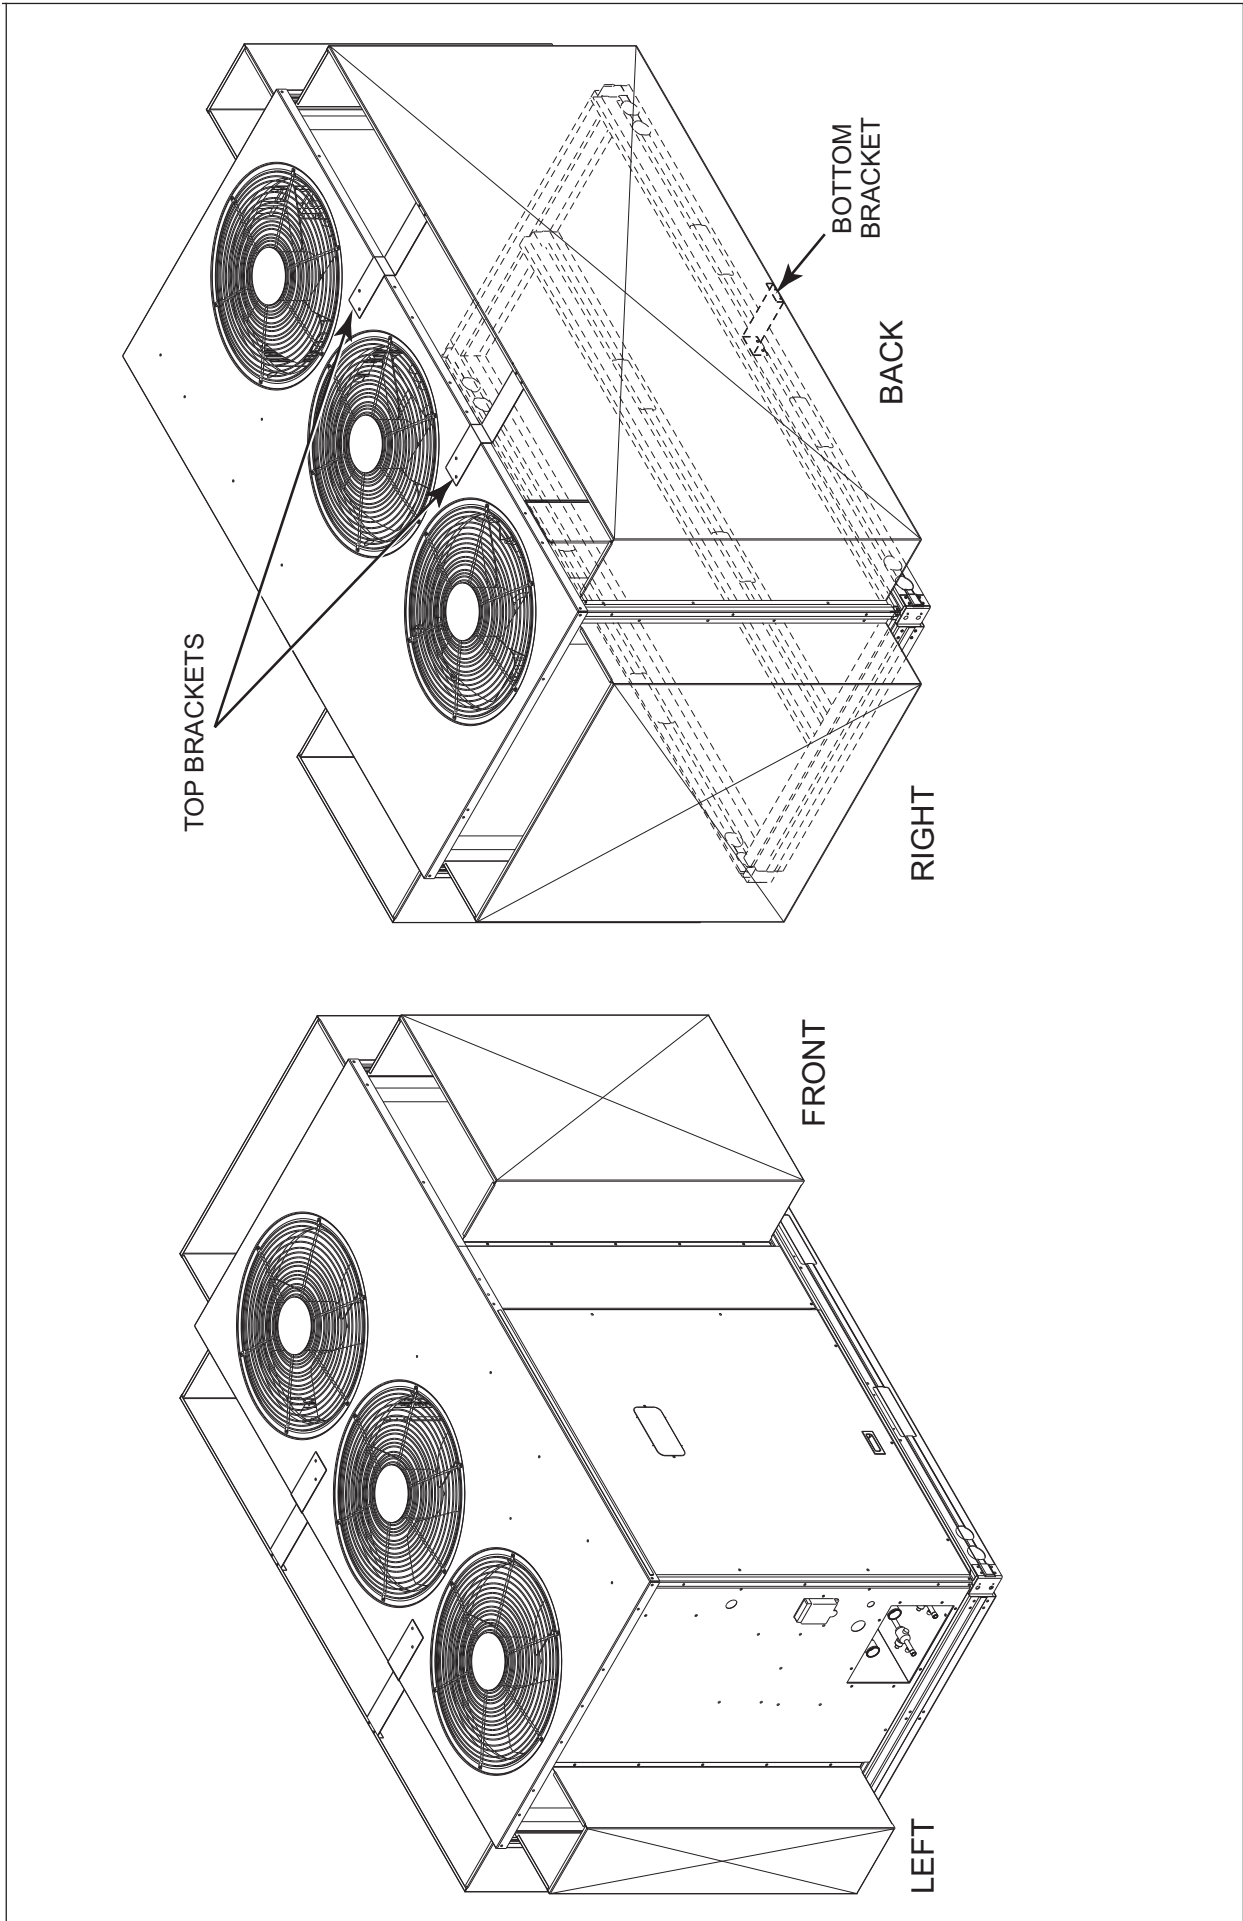
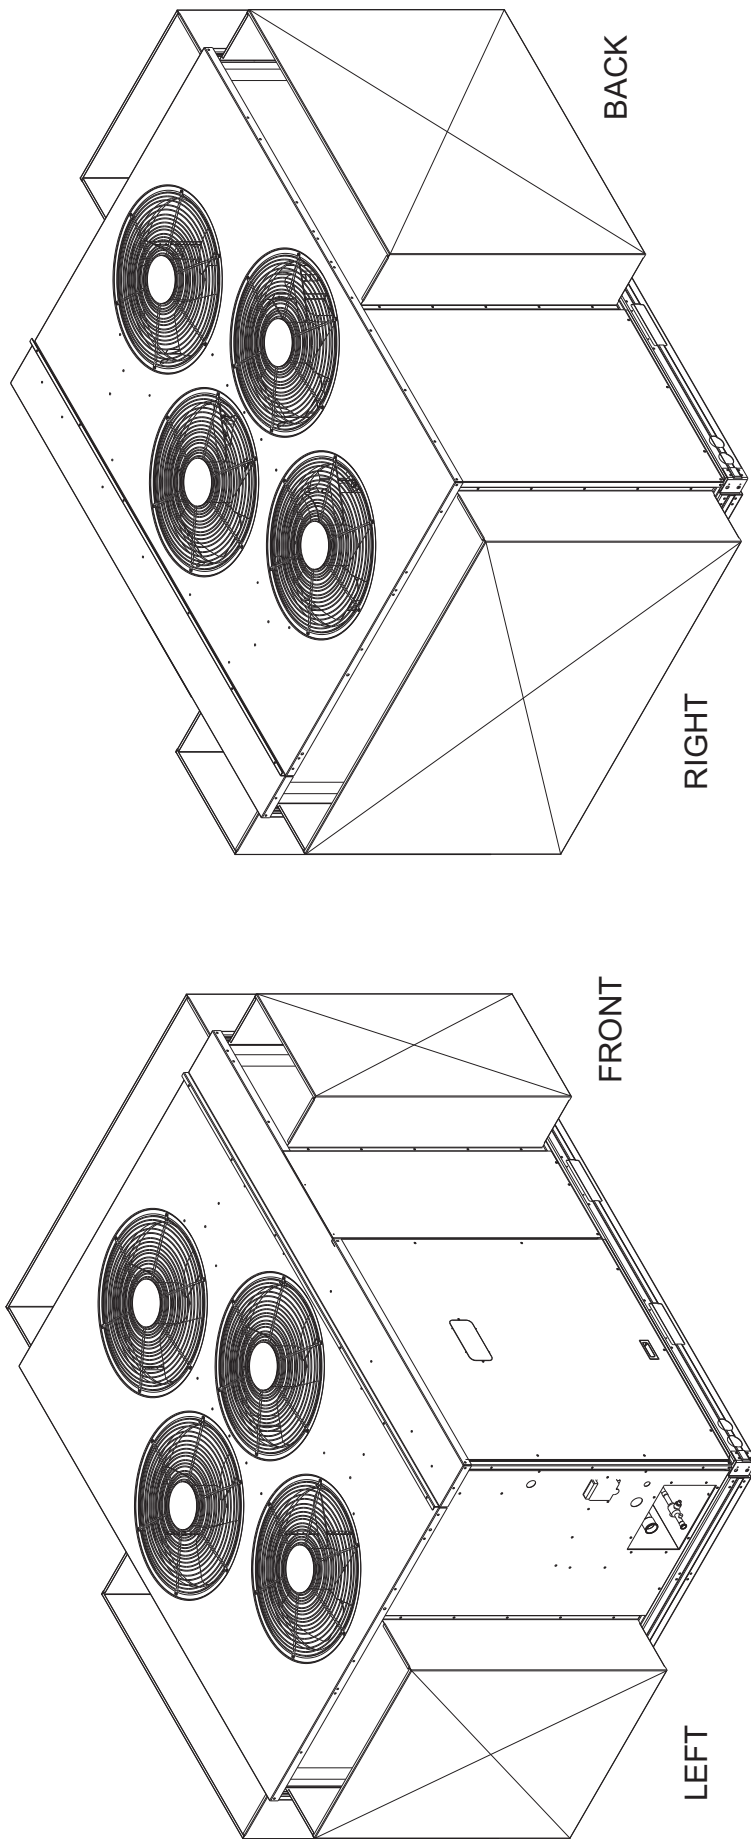

Fig. 48 - Wind Baffle Installation — 15 Ton Units
Fig. 49 - Wind Baffle Installation — 20 Ton Units
- Install the wind baffles as show in Fig. 48, for 15 ton units and Fig. 49, for 20 ton units .